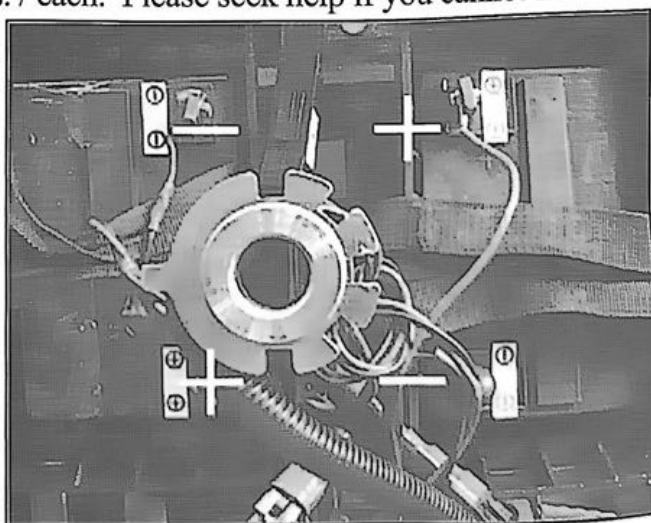

FIG. 1
1. Place the batteries to your MP3R. Be sure to place the Positive (+) contact of each battery adjacent to the Negative (-) of the other battery, as shown in (FIG. 1).